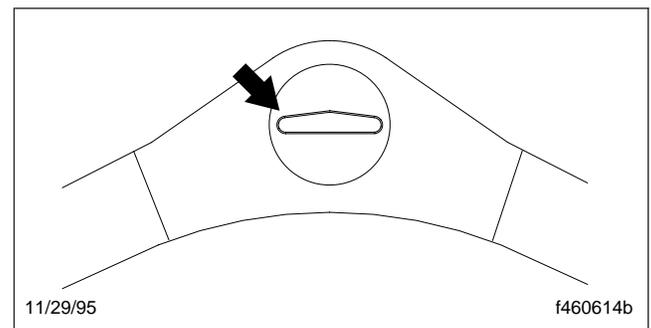

Fig. 2, Align the Logo
5. Install the horn button in the steering wheel hub so the logo on it is aligned with the steering wheel spokes. See Fig. 2.